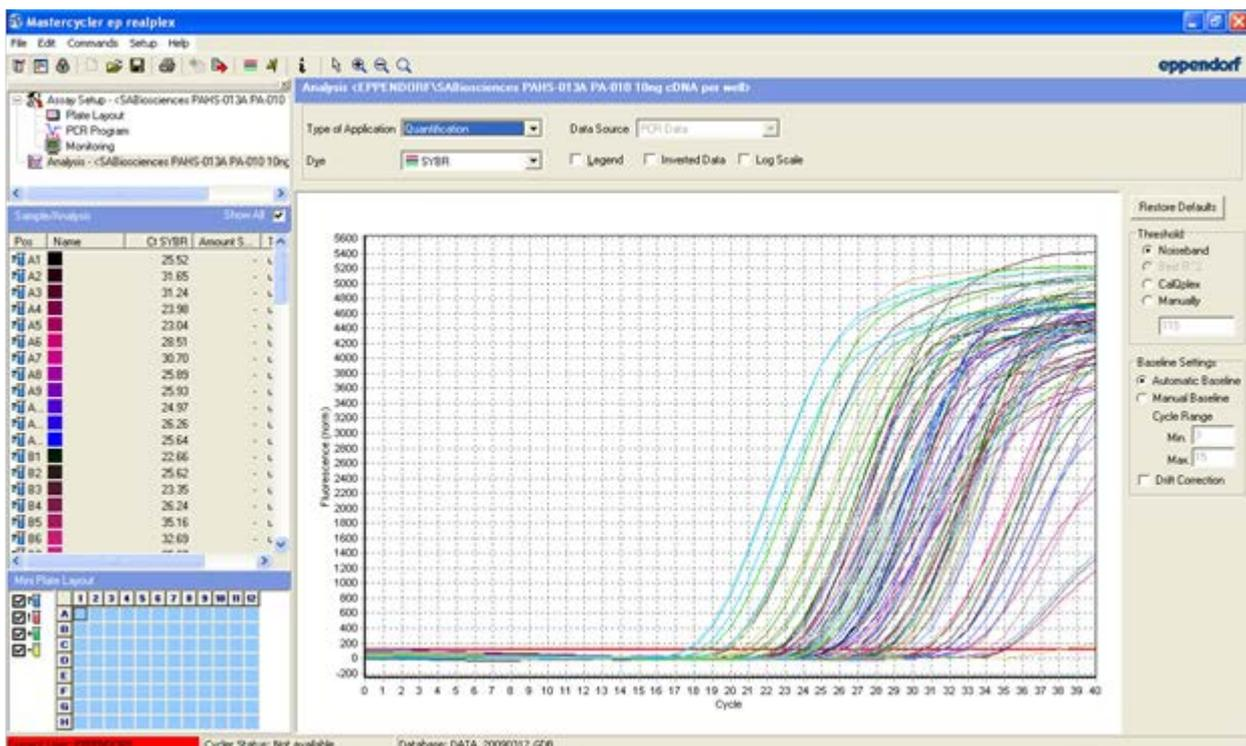

Figure 12. "Quantification Analysis" window.
3. Select "Quantification" (Figure 12) as the type of application to obtain  $C_T$  values. Numerical values are listed in the "Sample/Analysis" window to the left of the screen while amplification curves are shown in the main work area as a function of fluorescence and cycle number. As a default, the curves are shown in linear scale; to view the curves in log scale, check the "Log Scale" box in the top panel. Click on the  button to save the file with results.